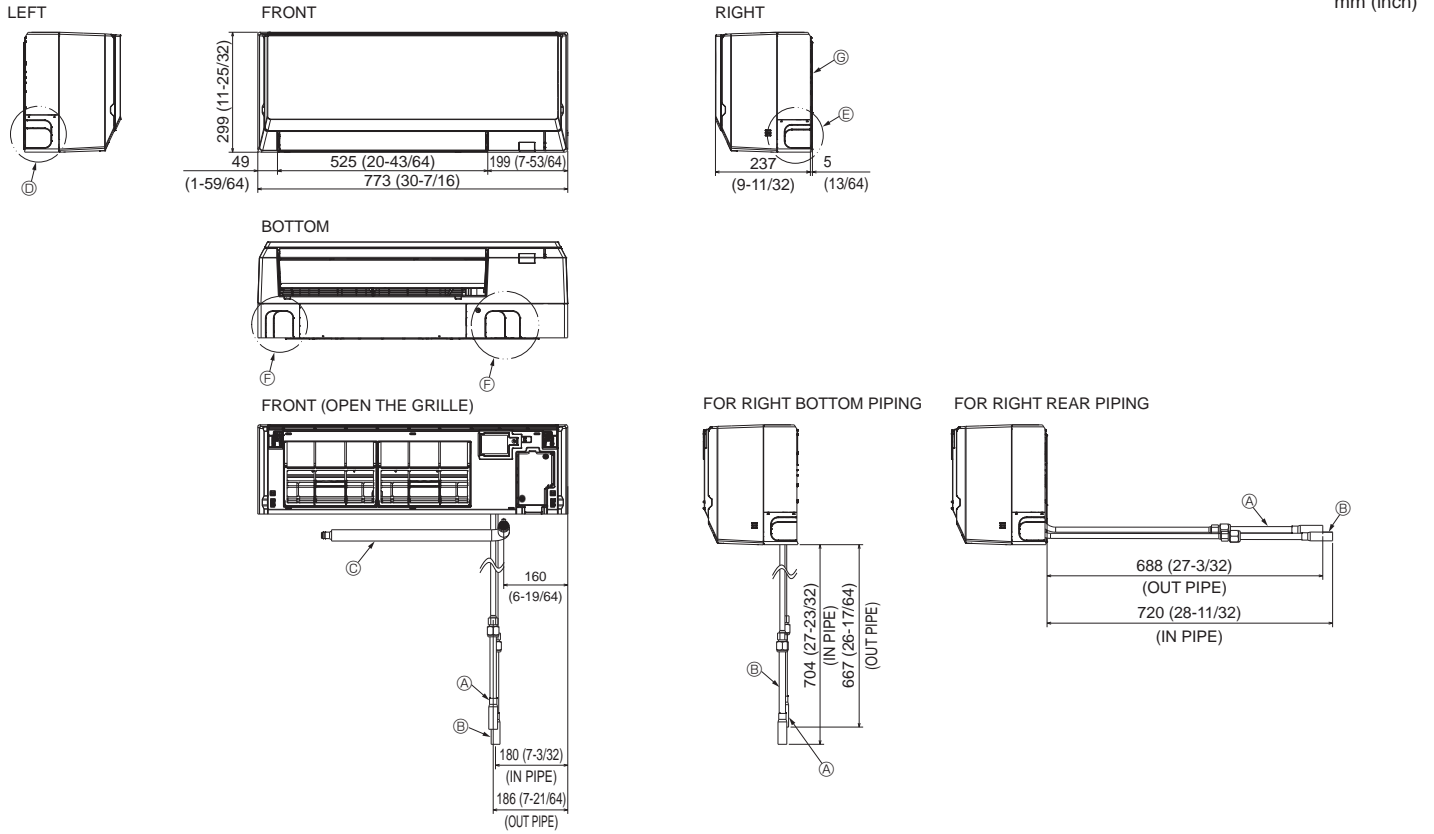

Fig. 4-5
4.2. Positioning water and drain piping (Fig. 4-5, 4-6)
- Ⓖ Mount board ①